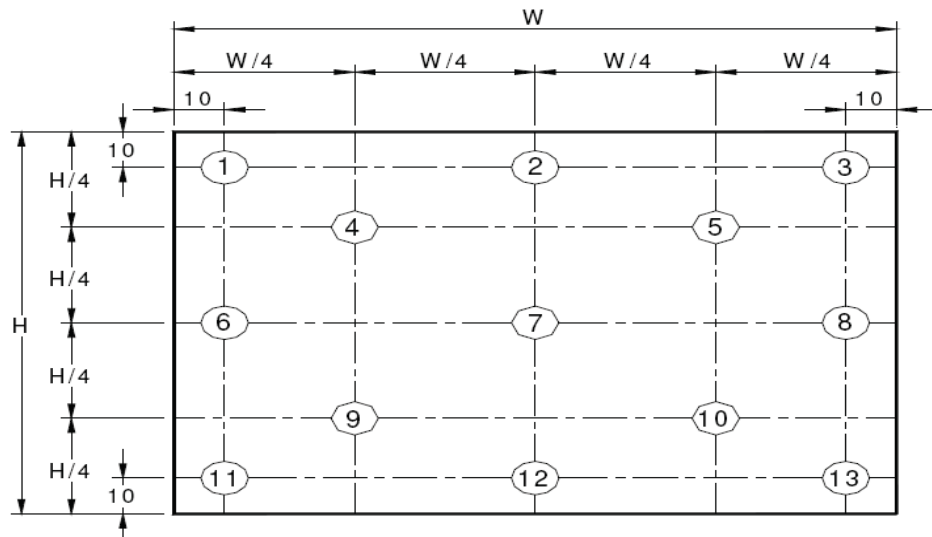
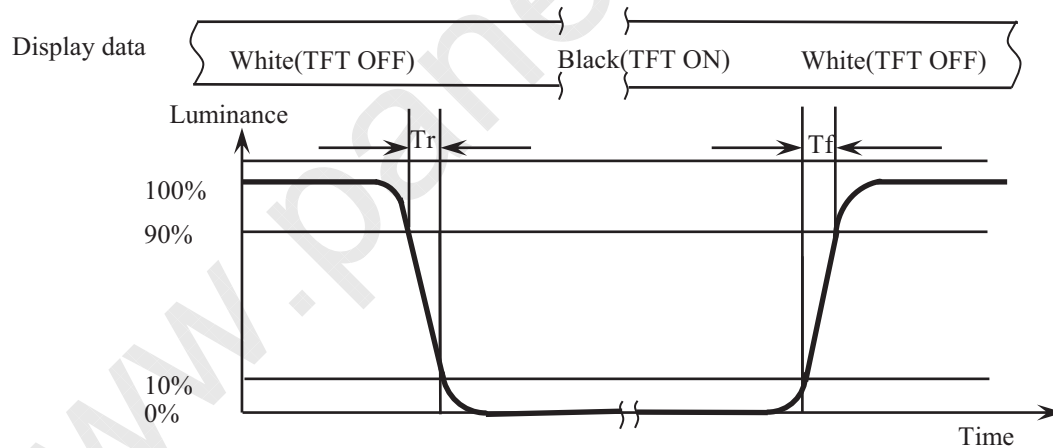

Figure 9. Uniformity Measurement Locations (13 points)
Figure 10. Response Time Testing
Notes : - Viewing angle is the angle at which the contrast ratio is greater than 10. The viewing angles are determined for the horizontal or 3, 9 o'clock direction and the vertical or 6, 12 o'clock direction with respect to the optical axis which is normal to the LCD surface (see Figure 7). - Contrast measurements shall be made at viewing angle of $\Theta = 0$ and at the center of the LCD surface. Luminance shall be measured with all pixels in the view field set first to white, then to the dark (black) state . (see Figure 7) Luminance Contrast Ratio (CR) is defined mathematically. $CR = \frac{\text{Luminance when displaying a white raster}}{\text{Luminance when displaying a black raster}}$ - Center Luminance of white is defined as luminance values of 5 point average across the LCD surface. Luminance shall be measured with all pixels in the view field set first to white. This measurement shall be taken at the locations shown in Figure 8 for a total of the measurements per display. - The White luminance uniformity on LCD surface is then expressed as : $\Delta Y = \text{Minimum Luminance of 5(or 13) points} / \text{Maximum Luminance of 5(or 13) points.}$(see Figure 8 and Figure 9). - The color chromaticity coordinates specified in Table 5 shall be calculated from the spectral data measured with all pixels first in red, green, blue and white. Measurements shall be made at the center of the panel. - The electro-optical response time measurements shall be made as Figure 10 by switching the “data” input signal ON and OFF. The times needed for the luminance to change from 10% to 90% is Tf, and 90% to 10% is Tr. - Cross-Talk of one area of the LCD surface by another shall be measured by comparing the luminance (YA) of a 25mm diameter area, with all display pixels set to a gray level(L0/L255), to the luminance (YB) of that same area when any adjacent area is driven white or dark. (See Figure 11).
The White luminance uniformity on LCD surface is then expressed as : $\Delta Y5$ = Minimum Luminance of five points / Maximum Luminance of five points (see Figure 8) , $\Delta Y13$ = Minimum Luminance of 13 points /Maximum Luminance of 13 points (see Figure 9).
The electro-optical response time measurements shall be made as shown in Figure 10 by switching the “data” input signal ON and OFF. Tr: The luminance to change from 90% to 10% ,Tf: The luminance to change from 10% to 90% .